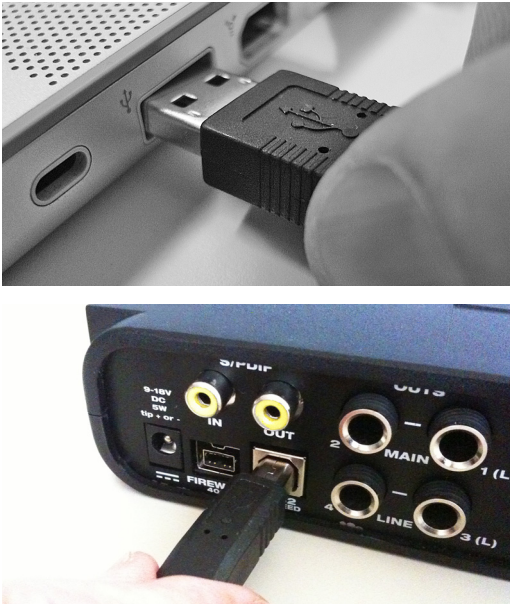

Figure 4-1: Connecting the 4pre to the computer via USB.
- 2 Plug the flat “type A” plug of the 4pre USB cable (included) into a USB2-equipped socket on the computer as shown below in Figure 4-1.
- 3 Plug the squared “type B” plug of the USB cable into the 4pre I/O as shown below in Figure 4-1.